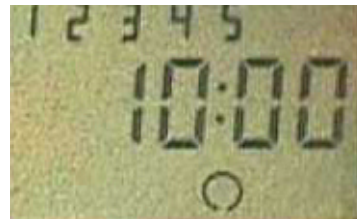

Fig. 6
- Press the Select button until the ○ symbol is shown (see fig. 6).